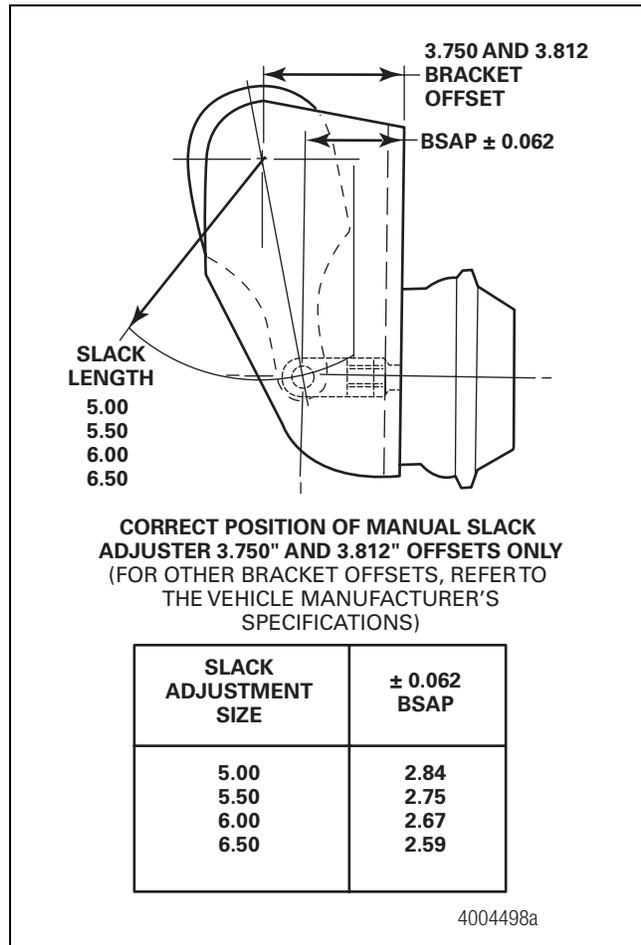

Figure 5.6
2. Install and adjust the slack adjuster to match the Brake Slack Adjuster Position (BSAP). Figure 5.6.